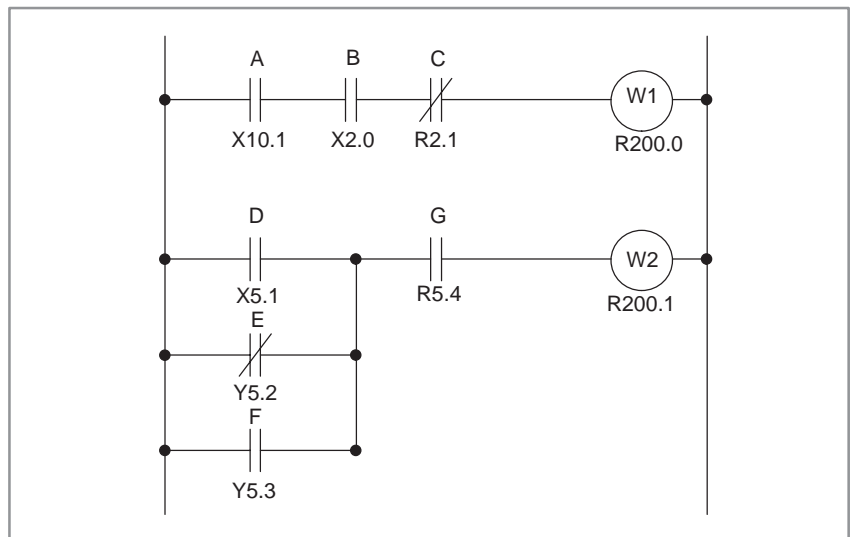

Fig. 4.1.1 Ladder diagram
(1) Format
- (2) Reads the status (1 or 0) of a signal at a specified address and sets it in ST0.
- (3) Is used when beginning coding with contact A (⊥⊥). See the ladder diagram of Fig. 4.1.1 and entries in the coding sheet of Table 4.1.1 for an example of using the RD instruction.
- (4) The signal read by the RD instruction may be any signal entered as the logical condition for one coil (output).
Table 4.1.1 Coding for Fig. 4.1.1